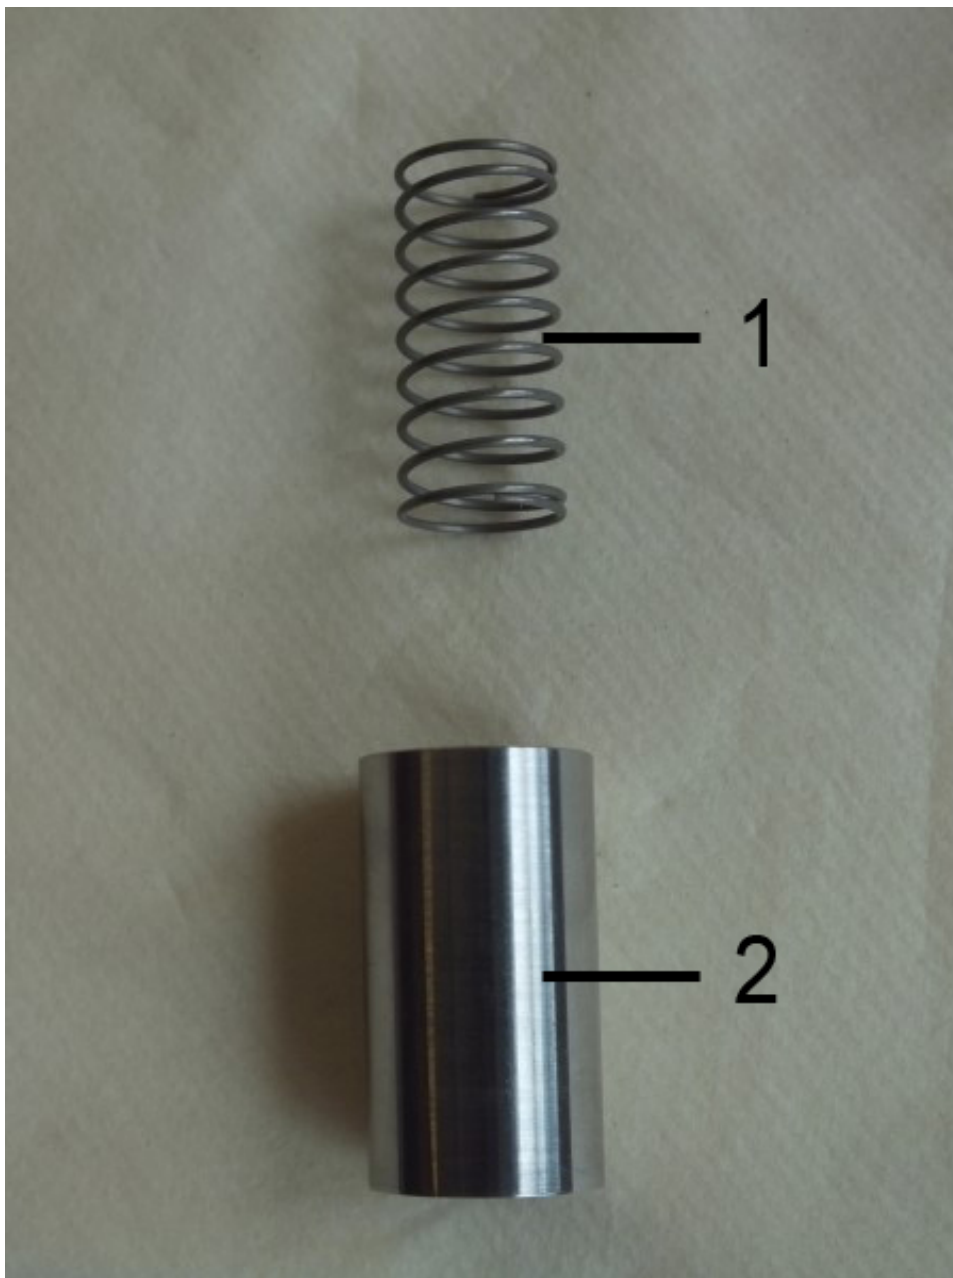

Fig. 39: Spring and float
5. ➤ The inner parts of the flow monitor consist of the spring (*Fig. 39/1*) and float (*Fig. 39/2*).